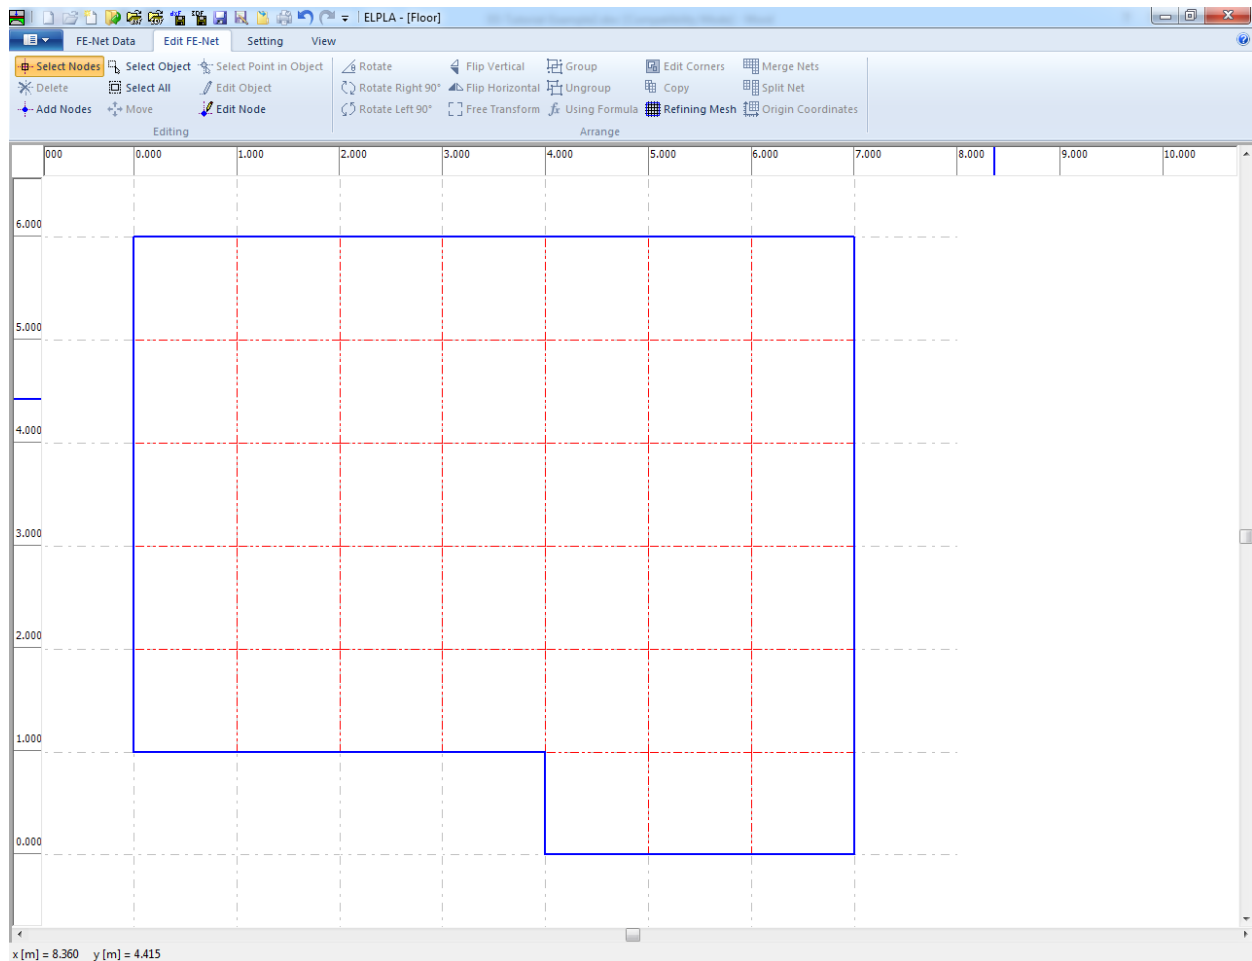

Figure 2.12 Final FE-Net after deleting the unnecessary nodes
To remove the selected nodes, choose "Delete" command from "Edit FE-Net" menu. The action of this command is indicated in Figure 2.12. To leave the graphic mode, press "Esc" key.
- Choose "Save" command from "File" menu in Figure 2.12 to save the data of the FE-Net
- Choose "Close" command from "File" menu in Figure 2.12 to close "FE-Net" Window and return to ELPLA main window.